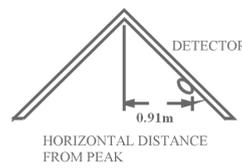

Figure 6: Recommended location to mount smoke detectors in rooms with sloped, gabled, or peaked ceiling
- If some of your rooms have sloped, peaked, or gabled ceilings, try to mount detectors 0.91 meter measured horizontally from the highest point of the ceiling as shown Figure 6.